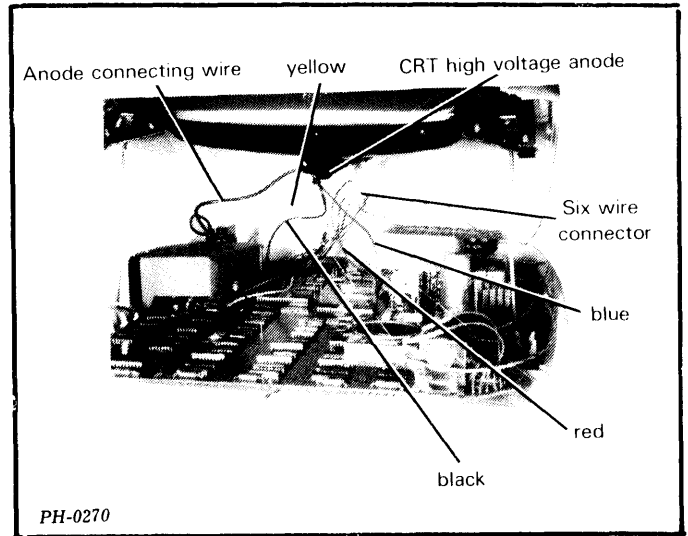

Figure 8.13 CRT/yoke wires
6. Unplug the wire from the CRT anode by squeezing the cap between your thumb and index finger and gently pulling it from side to side (see figure 8.13).
8. Unplug the six-wire connector from the rear of the CRT neck and the four yoke wires from the main board (see figure 8.13).